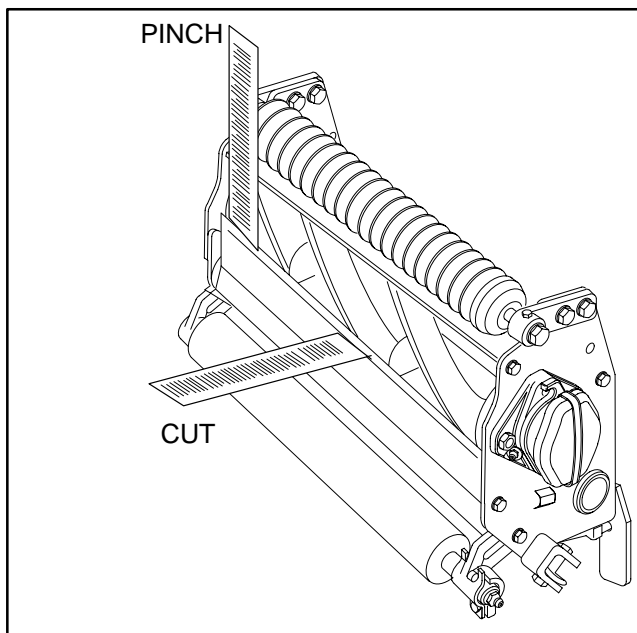

Figure 14
5. After the adjustment is accomplished, make sure of the following (Fig. 14):